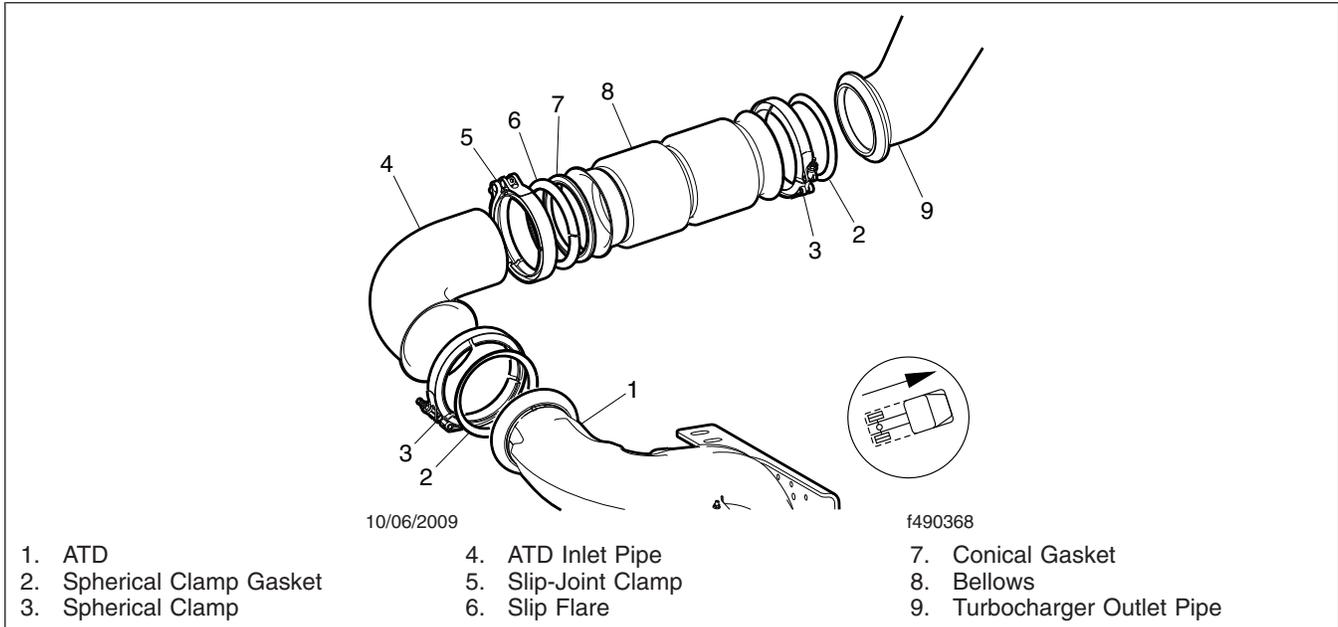

Fig. 23, Exhaust Pipe Installation
- 21.2 Fit the slip-joint clamp (5), flare (6), and compression gasket (7) onto the ATD inlet pipe in the order shown in the fig. 23.